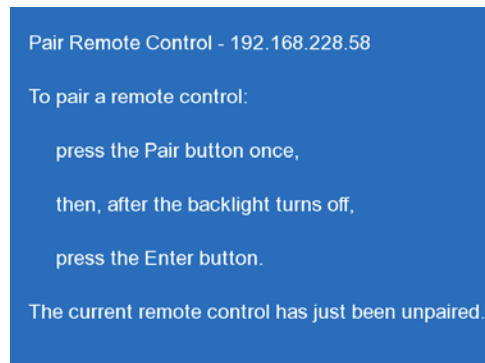

Figure 3-2 Pair Remote Control
1. Press and hold the **Power** button on the ECU for approximately five seconds until the screen shown in **Figure 3-2** appears. **NOTE:** *If the remote is not paired within 30 seconds the application times out, the message A remote control could not be detected appears on the display for 3 seconds and the OSD will return to video.*